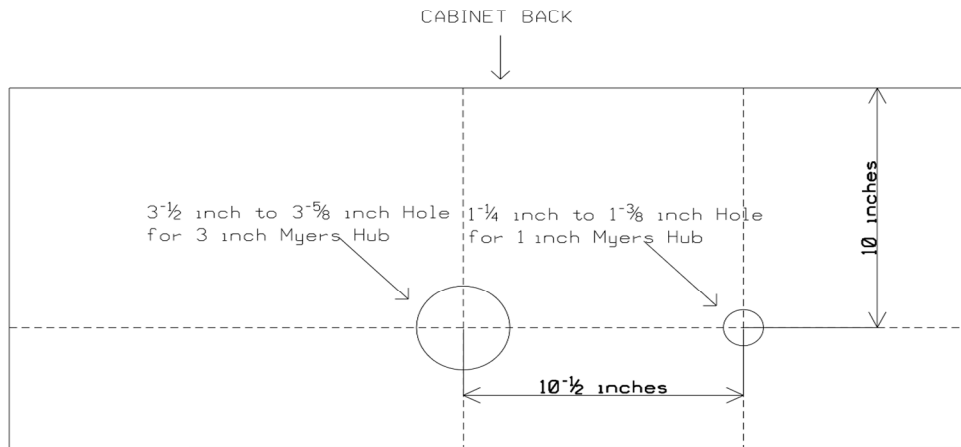
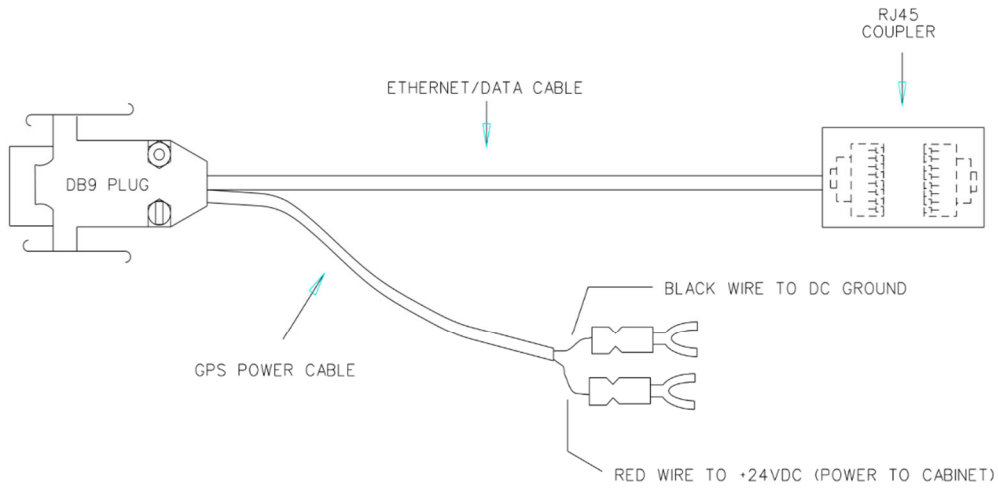

FIGURE 2: GPS INTERCONNECTION CABLE ASSEMBLY
FIGURE 3: GPS POWER/DATA CABLE TO DBP MALE PLUG PIN CONFIGURATION
- One (1) GPS device, Garmin Model No. GPS16x-HVS, or equal.
- One (1) Interconnection Cable Assembly per **Figure 2** to include:
- One (1) Ethernet/Data Cable with a male DB9 pin connector and an RJ45 connector
- DB9 pin configuration shall be per **Figure 3**.
- One (1) RJ45 Coupler
- One (1) 22 gage, 2 conductor, shielded power cable that includes one (1) red power wire with and one (1) black ground wire; both wires must have prongs